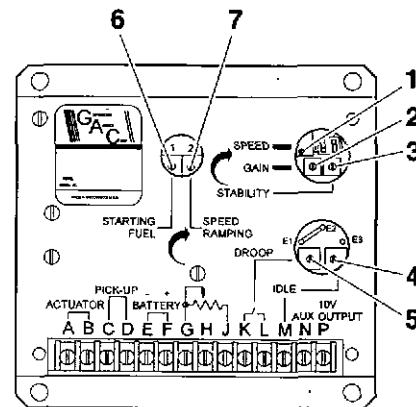

Fig. 3. Control unit ESD5500 with the rubber plugs removed.
The electronic control Unit (fig 3) compares the incoming signals with the pre-set values, and a correcting signal or an unchanged signal is transmitted to the actuator.
1. **Adjusting the idling speed** (marked "IDLE"), (4, fig. 3) is done with a single turn potentiometer. The idling speed can be adjusted with a jumper between the terminals "G" and "M" installed.
2. **Adjusting the operating speed** ("SPEED"), (1, fig. 3) is done with a 22 turn potentiometer.
3. **Governor sensitivity.** The governor's sensitivity is adjusted by a single turn potentiometer ("GAIN"), (2, fig 3). A small change of frequency can be noticed when adjusting the sensitivity. This can be adjusted by the "SPEED" potentiometer (1).
4. **Stability control.** The governor's time constant is adjusted by the single turn potentiometer ("STABILITY"), (3, fig 3).
5. **Droop.** The droop control (5, fig 3), marked "DROOP" is working when terminals "K" and "L" are connected. The adjustment range is 1-5%. Turning **clockwise** will **increase** the value.